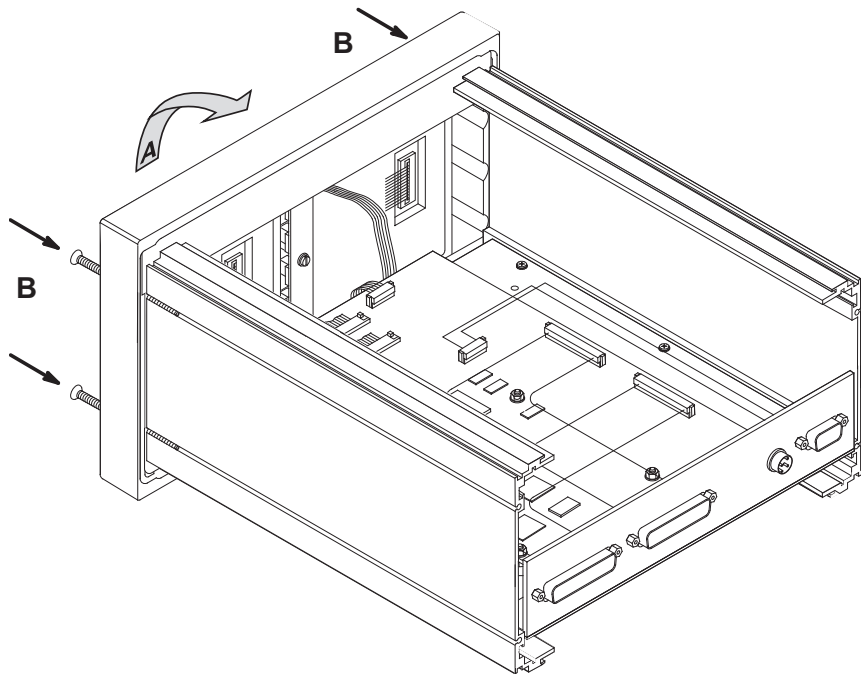

Fig. 8-31: Mounting the front panel
16. Upend the front panel back to its position at the frame (fig. 8-31, A) and fix it with the four Philips screws (fig. 8-31, B).